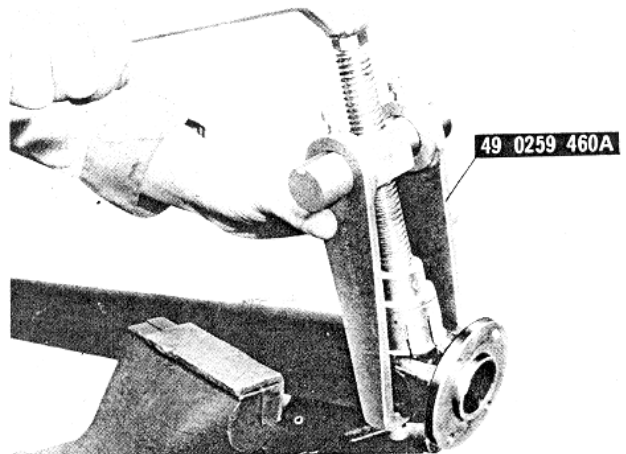

Fig. 8-13 Removing bearing cup
4. Position the universal joint replacer (49 0259 460A) as shown in Fig. 8-13 and screw in the center bolt until the bearing cup protrudes approximately 8 mm (0.32 in) out of the yoke.